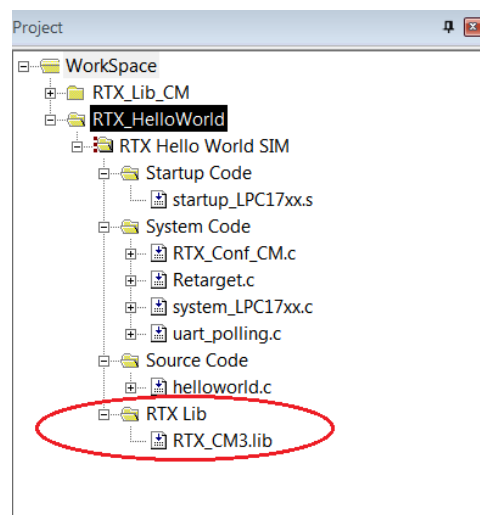

Figure 1.27: Keil IDE: Adding Your Own RTX Library
3. Add the RTX library we built (i.e. `RTX_CM3.lib`) to the project (see Figure 1.27).